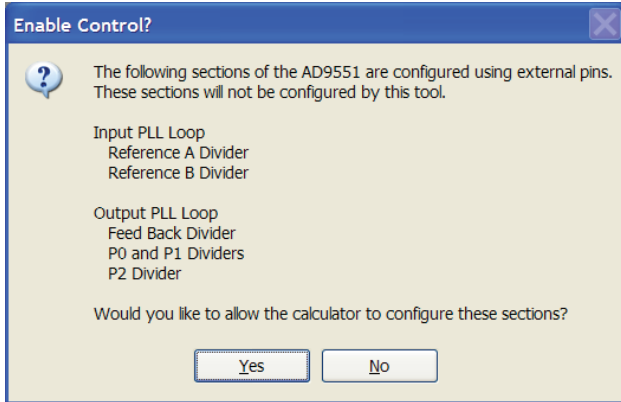

Figure 21. AD9552 Serial Port Programming Warning
5. The **Enable Control?** window, shown in Figure 21, appears.